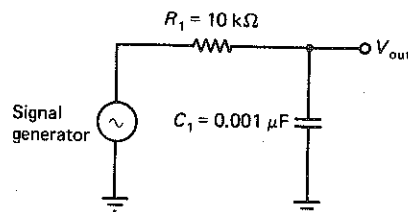

FIGURE 1-1 Passive RC lowpass filter
In this section the frequency response of a passive RC lowpass filter is examined. The schematic diagram for the lowpass filter circuit used in this section is shown in Figure 1-1. The output voltage is taken across  $C_1$ . At relatively high frequencies, the capacitive reactance is extremely low and at relative low frequencies, the capacitive reactance is extremely high. Therefore,  $C_1$  looks like a short circuit to high frequencies and an open circuit to low frequencies. Thus, high frequencies are shorted to ground, and low frequencies appear across  $C_1$ .
1. Construct the RC lowpass filter circuit shown in Figure 1-1.